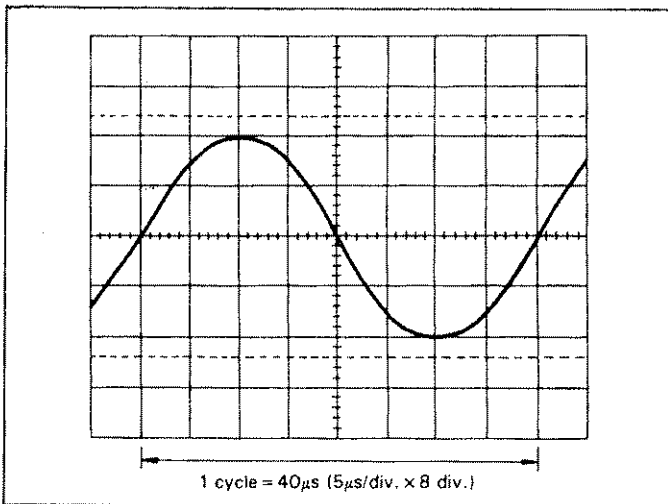

Fig. 9. Frequency Measurement.
(Refer to Fig. 9)
1. Set up the oscilloscope to display one cycle of waveform (see Fig. 9).
In the example shown in Fig. 9, a period of  $40 \mu\text{s}$  is observed. Substituting this value into the above equation, the frequency is calculated as follows: